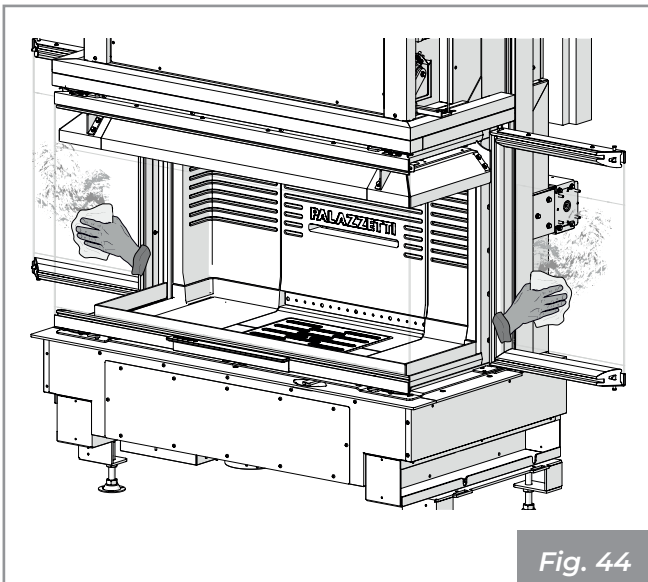

Fig. 44
- 3) Clean the glass with a damp cloth or with paper moistened and dabbed in the ashes (Fig. 44). You can also use detergents suitable for cleaning kitchen ovens.